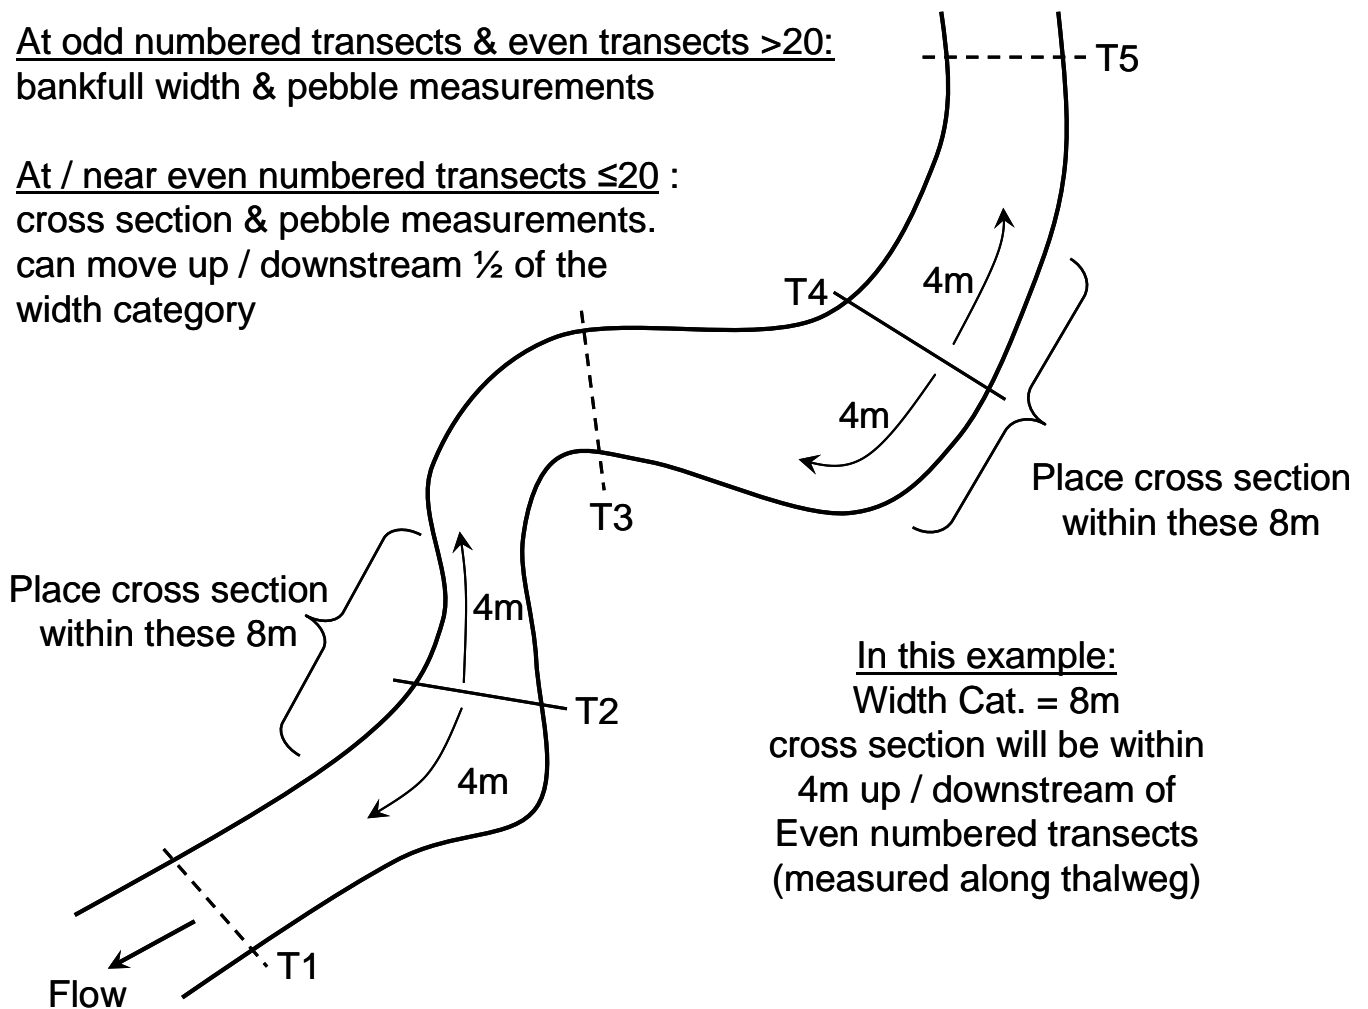

Figure 18: Determine precise location of each cross-section in relationship to even-numbered transect.
- You don't have to place cross-sections exactly in line with transects, you can move up or downstream from the transect $\frac{1}{2}$ of the width category (measured along thalweg). If the width category is 8m, you can go up / downstream from the transect 4m (Figure 18).